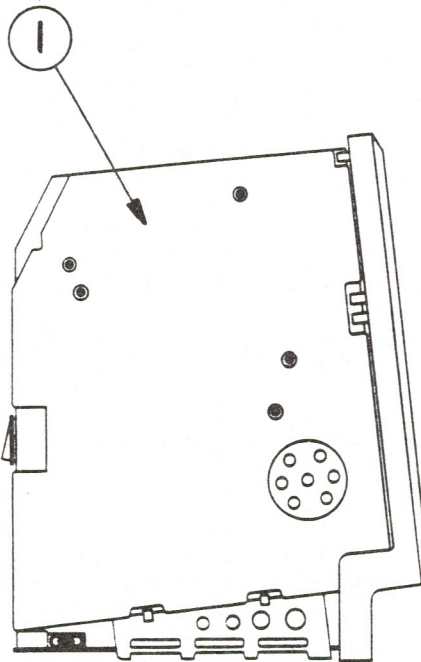

FIGURE 3
1. Make sure that the insulating paper is in the proper position (Figure 3, #1) and that all cables are connected. Carefully slide the cover back onto the computer and check to see that it is properly seated.